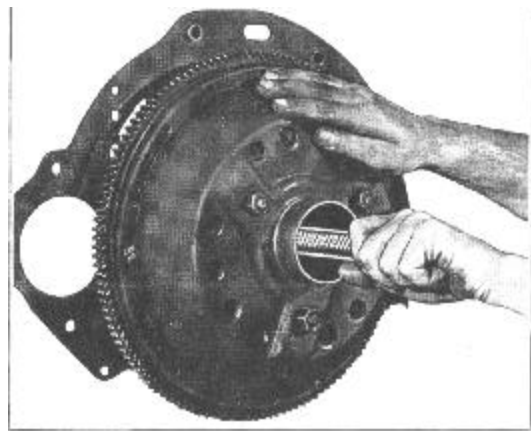

Figure 810—Assembling Clutch to Flywheel—J-384 Clutch Aligning Arbor
Shellac a new gasket (9) to the front face of the clutch cover bolting flange. Pass the J-384 Clutch Aligning Arbor through the hubs of the clutch cover and drive plate and entering it into the pilot bearing (Fig. 810). Push the clutch assembly into place against the flywheel and then secure with capscrews with the aligning arbor still in place to keep the drive plate centered to permit easy installation of the transmission.